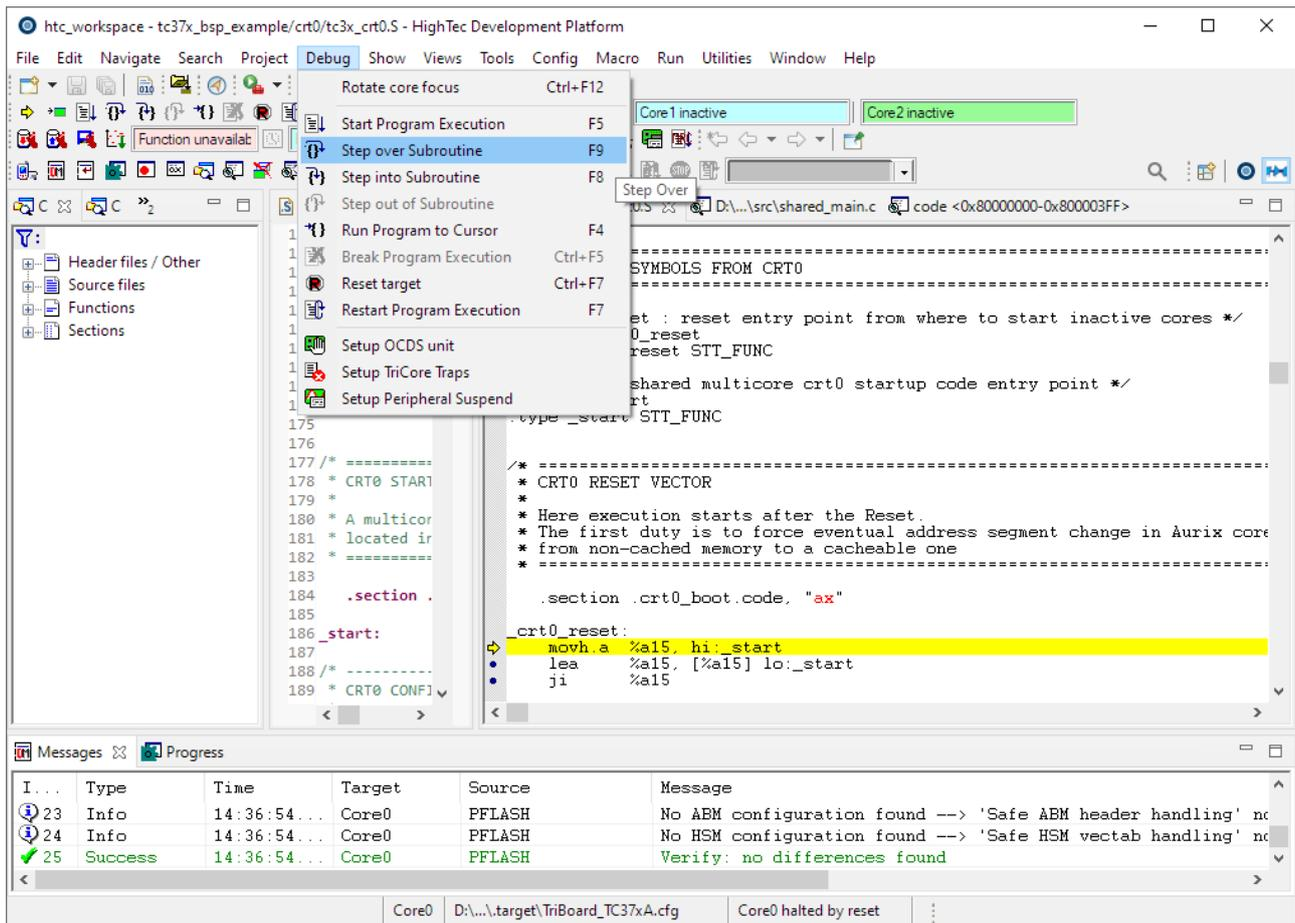

Figure 40 First step to main() function
- From the **Debug** menu, select **Step over subroutine**, or click on the **Step over** button  in the toolbar. At this moment your application is executing but stopped on the function `main()`. This means the C startup code has been executed completely. The Editor view shows the C source files of your application and a yellow arrow shows the line where the execution has stopped (Figure 40).